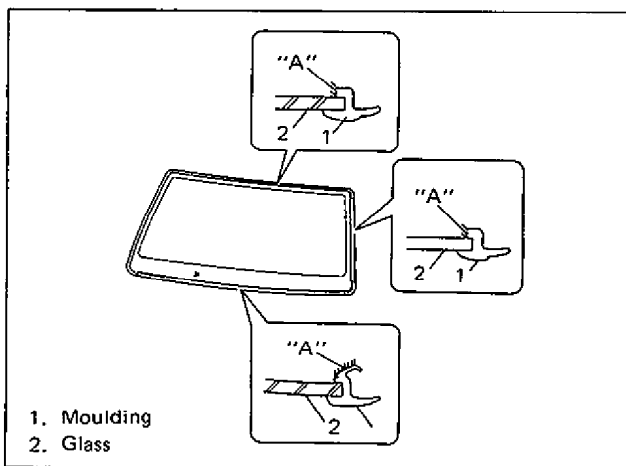

Fig. 9-80
- 8) Using new brush, apply sufficient amount of primer for moulding (Urethane) to surface "A" as shown in Fig. 9-80.